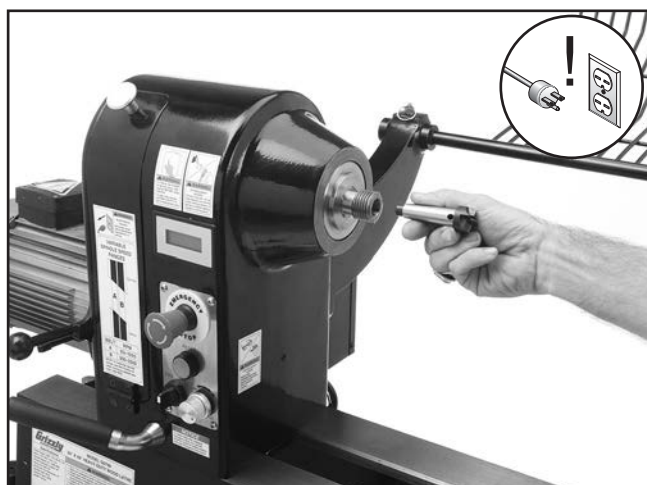

Figure 32. Installing center in headstock spindle.
3. Insert tapered end of center into spindle, and push it in with a quick, firm motion, as shown in **Figure 32**.